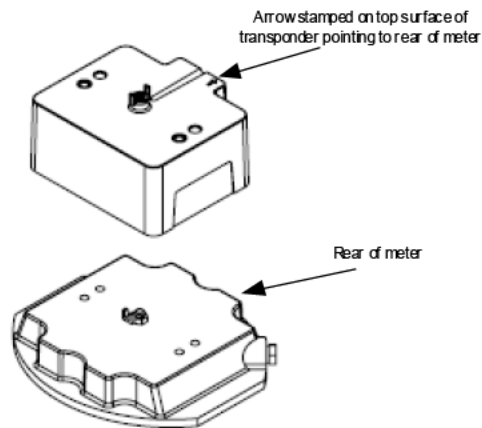

Figure 2. Rockwell C & I Gas meter with DGT
- Examine the orientation of the transponder and ensure that the arrow stamped on the top of the transponder is facing to the rear of the meter (Figure 2).